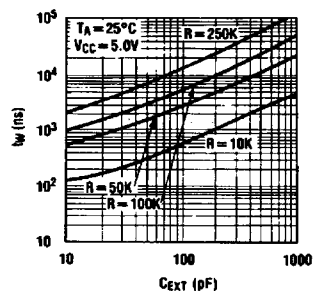

FIGURE 3
5. For $C_X < 1000$ pF see Figure 3 for T_W vs C_X family curves with R_X as a parameter: